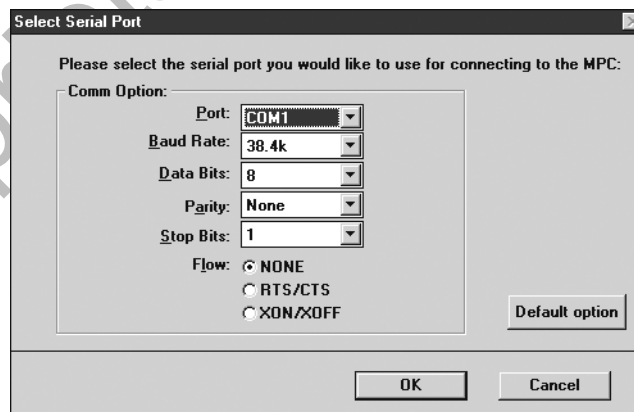

Figure 5.8 Sample Serial Port Configuration screen
- 8 Be sure the settings on this screen match the settings on the Virtual Terminal software program (Figure 5.8, page 40).
The **Flow** specification (pictured in (Figure 5.8, page 40) is the same as the **Handshake** specification (pictured on the Pro-Link GRAPHIQ™ screen).